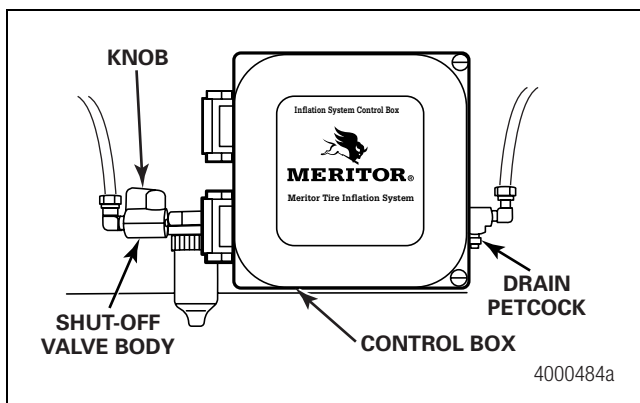

Figure 4.1
3. Check that the shut-off valve is ON. When the valve is ON, the knob aligns with the shut-off valve body. Ensure that the drain petcock is closed. Figure 4.1.